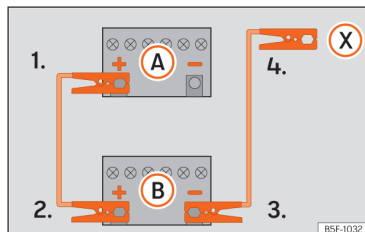

Fig. 43 Diagram of connections for vehicles without Start Stop system
2. Connect one end of the red jump lead to the positive (+) terminal of the vehicle with the flat battery (A) » » » Fig. 43.
3. Connect the other end of the red jump lead to the positive terminal (+) in the vehicle providing assistance (B).
- 3a. *In vehicles without a Start-Stop system:* connect one end of the black jump lead to the negative terminal (-) of the vehicle providing the current (B) » » » Fig. 43.